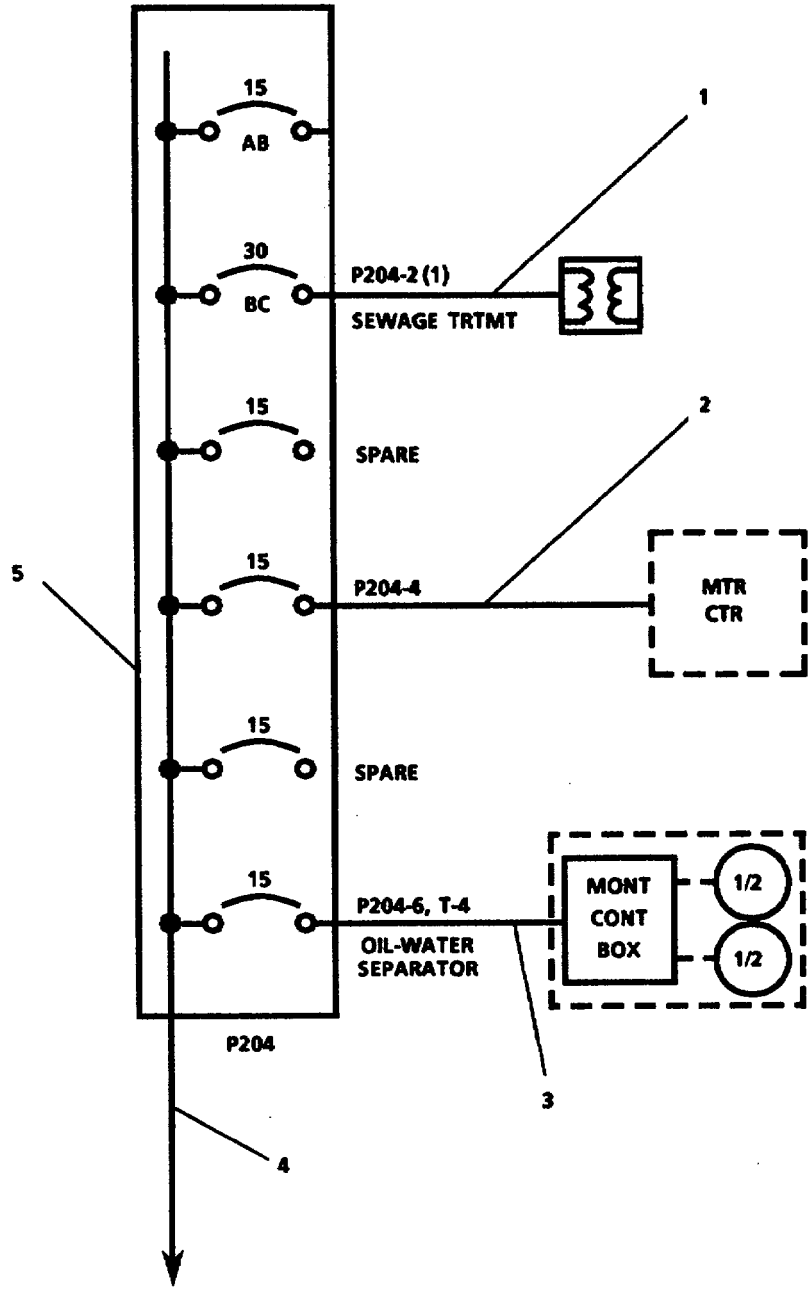

FIGURE 3-132. Power Distribution Panel (P204).
**3-146. Repair Power Distribution Panel P204. (Figure 3-132)**